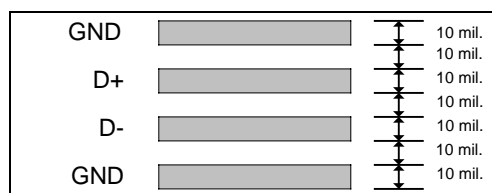

FIGURE 10 – SUGGESTED MINIMUM TRACK WIDTH AND SPACING
- 2) The Dx+ and Dx- tracks should be kept close together, in parallel with grounded guard tracks on each side. Using wide tracks will help to minimize inductance and reduce noise pickup. A 10 mil track minimum width and spacing is recommended. See FIGURE 10.